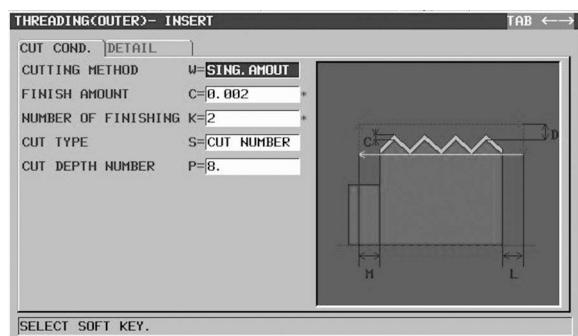

Figure 7-33 THREADING CUT CONDITIONS
45. Complete the THREADING dialog CUT COND. tab per Figure 7-33.